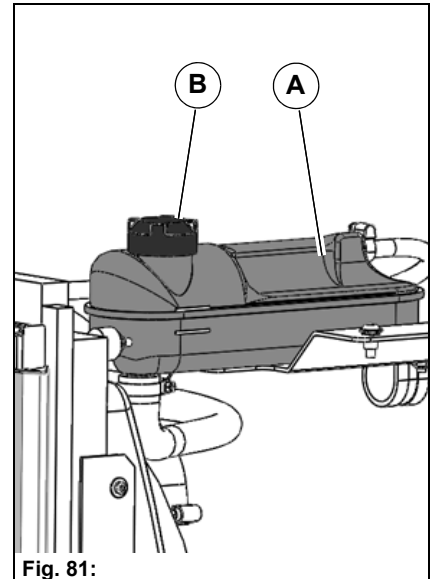

Fig. 81:
Check the coolant level in the coolant tank **Fig. 81-A** daily and refill as required.
3. Unscrew the cap **Fig. 81-B** carefully step by step from the coolant tank.